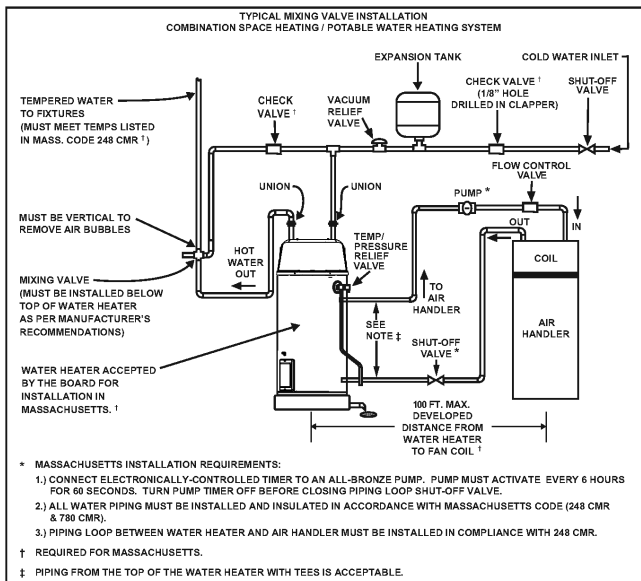
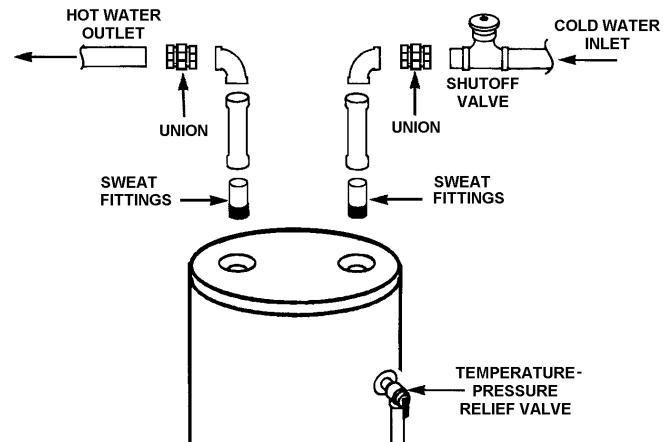

Figure: 9
Figure: 10
Your water heater is equipped with inlet/outlet connections for use in space heating applications (see Figure 9). If this water heater is to be used to supply both space heating and potable (drinking) water, the instructions listed below must be followed:
**NOTE:** To protect against untimely corrosion of hot and cold water fittings, it is strongly recommended that di-electric unions or couplings be installed on this water heater when connected to copper pipe, see Figure 10 also.
Figure 9 and Figure 10 show the typical attachment of the water piping to the water heater. The water heater is equipped with 3/4 inch NPT water connections for 50 gallon unit and 1 inch NPT water connections for 75 gallon unit..